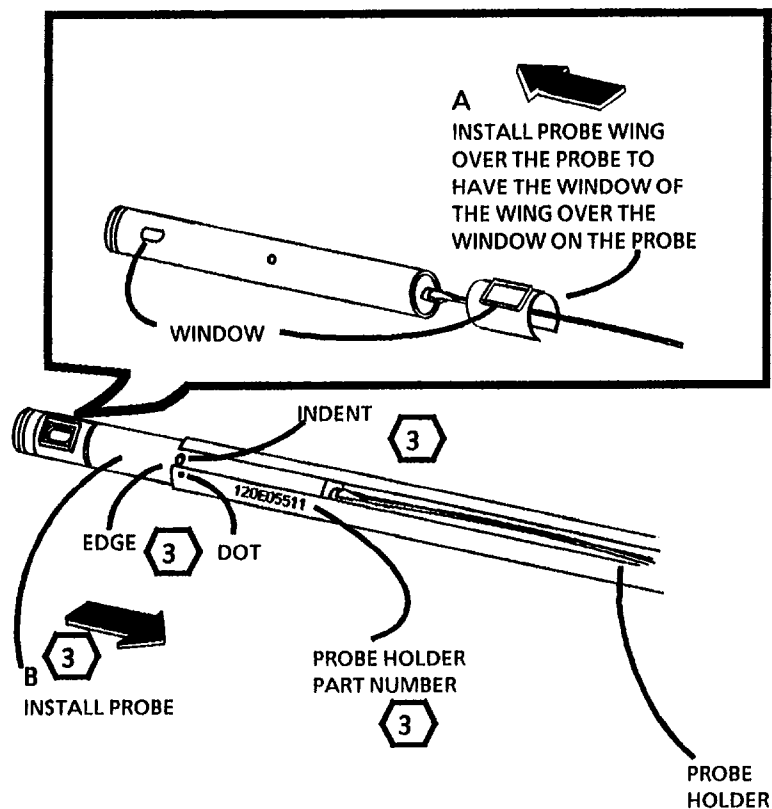

Figure 1. Install the Electrometer Probe in the Probe Holder
4. (Figure 1): Install Electrometer Probe in the Probe Holder.